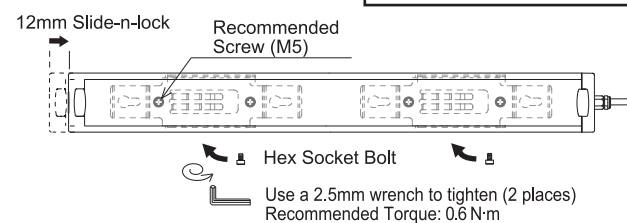

Figure 7. Slide Installation -2
- Specifications for the lens lengths of 200 mm and 300mm include one Standard Bracket per unit, and for the 600mm lengths, two Standard Bracket sets are included. Moreover, when sliding the Main Unit onto the Standard Bracket, allow a clearance of at least 12mm on both ends to allow attachment and removal. Refer to Figure 4. "Slide Installation -1" and Figure 7. "Slide Installation -2."